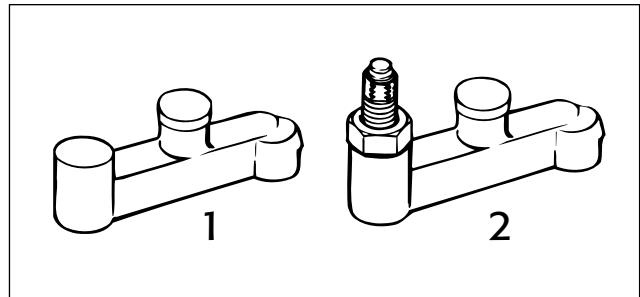
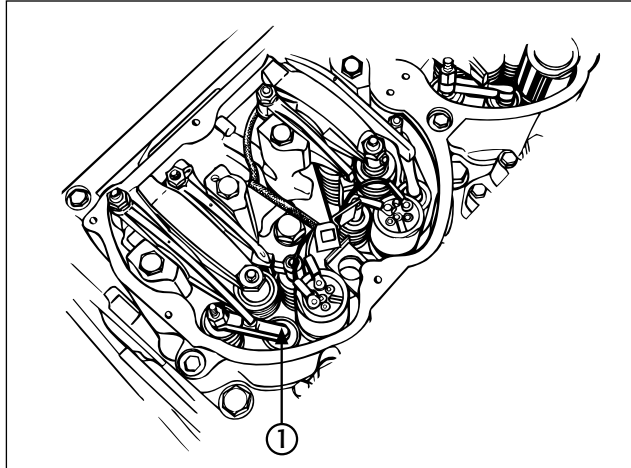

FIG. 5
FIG. 6
Remove the Caterpillar exhaust valve bridge (1) (see Fig. 5).
Install the Caterpillar bridge assembly used for Jacobs' screw and pin assembly (2) (see Fig. 5) on bridge dowel with the adjusting screw toward the rocker shaft as shown in Fig. 6. This is 180° from the original position.